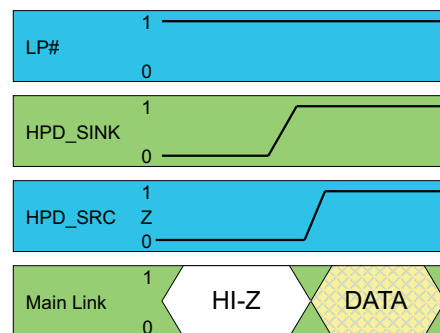
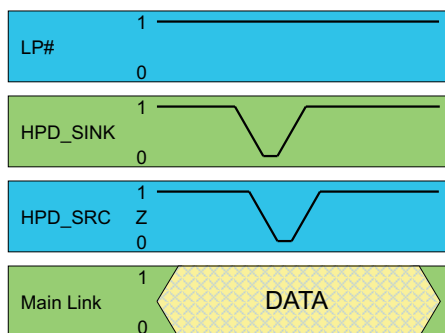
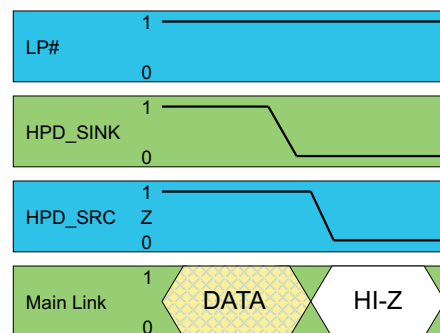

**Figure 17.**
Figure 18.
Figure 19.
- **Case two:** In this case HPD\_SINK is initially LOW and the low power pin is HIGH. In this initial state the device is in a standby mode. Once the HPD input goes to a HIGH state the device will come out of the standby mode and will enter active mode enabling the main link. The HPD output to the source will follow the logic state of the input HPD. See Figure 17, where HPD\_INV = L.
- In this case the HPD\_SINK input is initially HIGH. The HPD\_SRC output logic state will follow the state of the HPD\_SINK input (when HPD\_INV = L). If the HPD\_SINK input pulses LOW, as may be the case if the Sink device is requesting an interrupt, the HPD\_SRC output to the source will also pulse Low for the same duration of time with a slight delay (see Figure 18). The delay of this signal through the SN75DP120 is specified as  $t_{PD(HPD)}$ . If the duration of the LOW pulse exceeds  $t_{T(HPD)}$  the device will assume that an unplug event has occurred and enter the low power state (see Figure 19). Once the HPD\_SINK input goes high again the device will return to the active state as indicated in Figure 17.